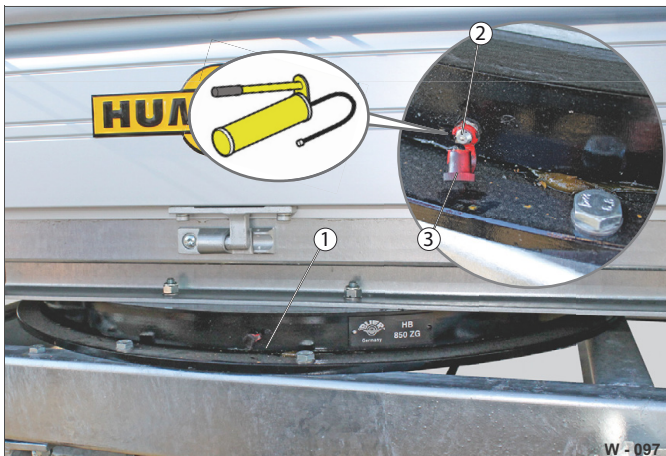

Fig. 55 Lubrication points on turntable
- Lubricate the turntable using a grease gun applied to the grease nipples all around the turntable (Fig. 55 /1). When lubricating, swivel the drawbar to the right and left.